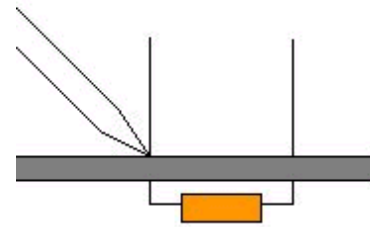

Figure 1. Heat for under one second!
6. Heat all parts of the joint with the iron tip for under a second or so (see Figure 1).